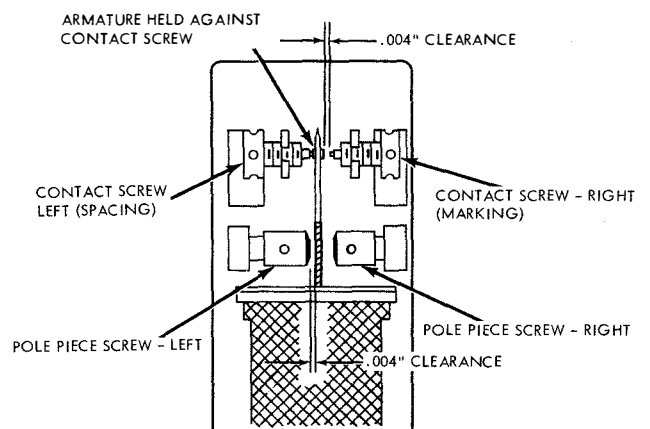

Figure 7-129. Pole Piece and Contact Screw Adjustment
(9) **BIAS SPRING-SCREW ADJUSTMENT.**— Before adjusting the bias spring, normal operating current should be passed through the relay in a direction to give the tongue a marking bias (armature against right contact screw in figure 7-129). This current should be permitted to pass through the coil of the relay for approximately five seconds. The tongue of the relay will then rest against the marking contact. Turn the bias spring screw clockwise until the spring has just sufficient tension to move the armature to the spacing contact plus an additional 1/8 turn.